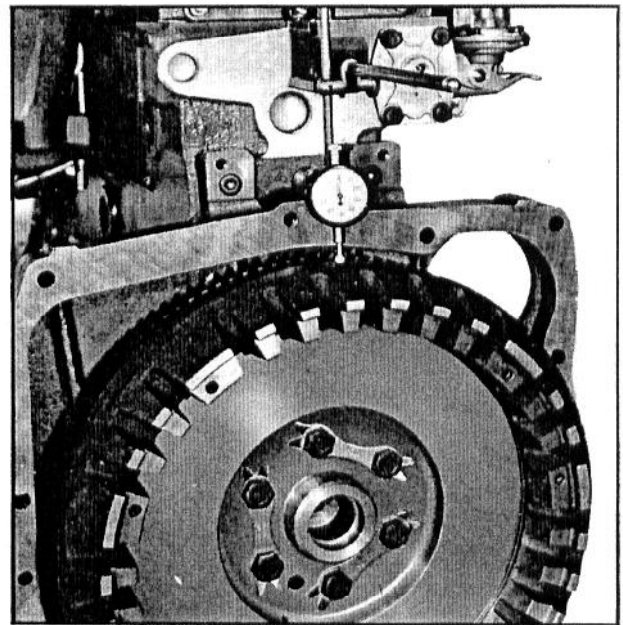

Fig. 30 - Measuring Run-Out on Outer Diameter of Flywheel
5. Check the run-out of the outer diameter as shown in Fig. 30. The total indicator reading should not exceed .012".